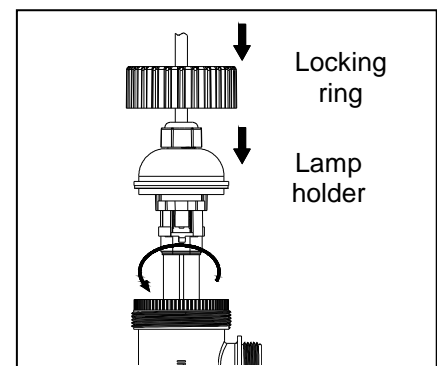

Fig. 11
11. Then reinstall the lamp holder and locking ring. Fig. 11